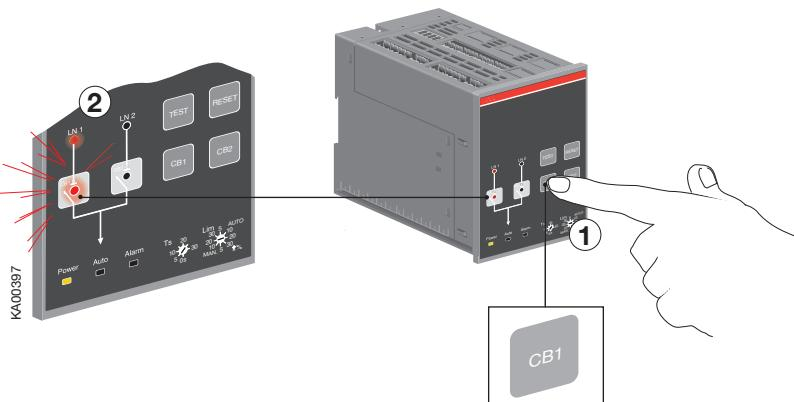

Figure 4.2 Selecting the operating line, the circuit breaker status and the chosen line indication with LEDs in ATS021
- When pushing the CB1 key (see the Figure 4.2/①), the circuit breaker CB1 will be in the ON position (the status and the line indication, see the Figure 4.2/②) and the circuit breaker CB2 will be in the OFF position. When the circuit breaker CB1 is already in the ON position, the CB1 led is ON (see the Figure 4.2). During switching the CB1 led blinks 50% ON and 50% OFF. If the circuit breaker CB1 is already in the ON position, pushing the CB1 key opens the circuit breaker.